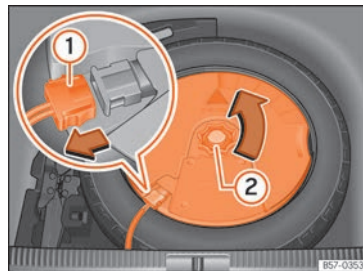

Fig. 234 In the luggage compartment: remove the subwoofer.
- Disconnect the *subwoofer* »» Fig. 234 ① speaker cable.
- Turn the securing wheel in an anti-clockwise direction »» Fig. 234 ②.